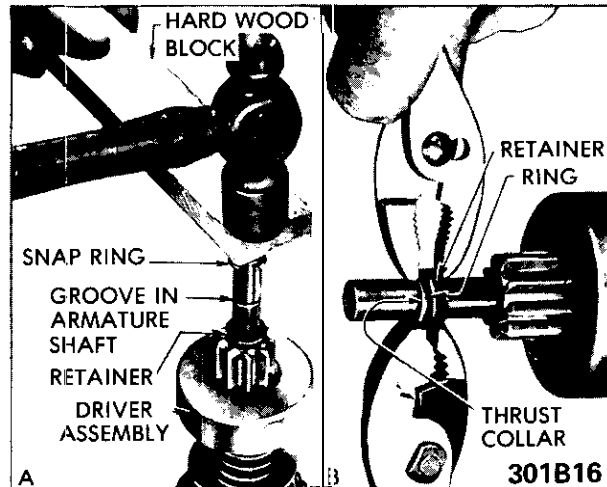

Figure 1B-16 Pinion Stop Retainer and Snap Ring Installation
4. Place thrust collar on shaft with shoulder next to snap ring and move the retainer into contact with ring. Using pliers on opposite sides of shaft, squeeze retainer and thrust collar together until snap ring is forced into the retainer. See Figure 1B-16, view B.